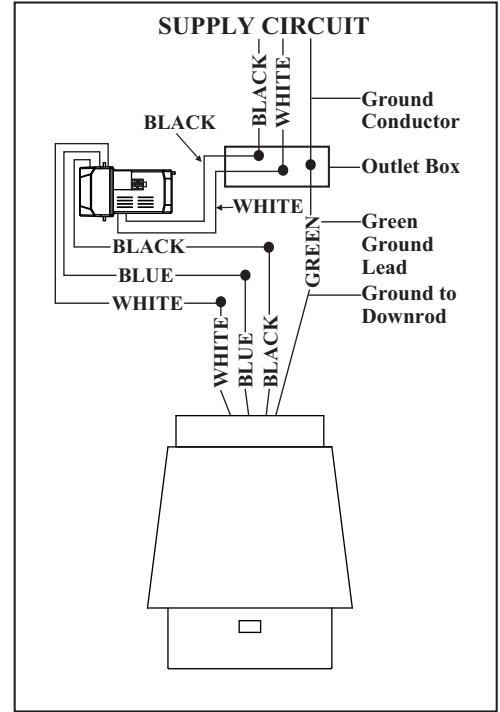

Figure 7
1. (Figure 7) Motor to receiver electrical connections: Connect the black wire from the fan to black wire marked "TO MOTOR L". Connect the white wire from the fan to the white wire marked "TO MOTOR N" from the receiver. Connect the blue wire from the fan to the blue wire marked "For Light" from the receiver. Secure the wire connections with the plastic wire connecting nuts provided.
2. (Figure 7) Receiver to house supply wires electrical connections: Connect the black (hot) wire from the ceiling to the black wire marked "AC in L" from the receiver. Connect the white (neutral) wire from the ceiling to the white wire marked "AC in N" from the receiver. Secure the wire connections with the plastic wire connecting nuts provided.
3. (Figure 7) If your outlet box has a ground wire (green or bare copper) connect it to the fan ground wires; otherwise connect the hanging bracket ground wire to the mounting bracket. Secure the wire connection with a plastic nut provided. After connecting the wires spread them apart so that the green and white wires are on one side of the outlet box and black and blue wires are on the other side. Carefully tuck the wire connections up into the outlet box.